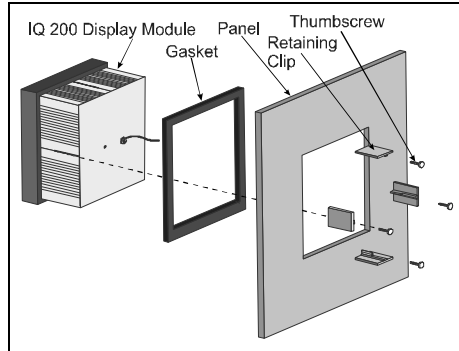

Figure 3.1 Securing the IQ 200 Display Module
Cut a ¼ DIN (92mm x 92mm) access cutout in the switchgear door or other panel where the IQ 200 is to be mounted as shown in figure 3.1. Install the IQ 200 Display Module as shown in figure 3.1, following these steps:
**Display Module** Cut a ¼ DIN (92mm x 92mm) access cutout in the switchgear door or other panel where the IQ 200 is to be mounted as shown in figure 3.1. Install the IQ 200 Display Module as shown in figure 3.1, following these steps: